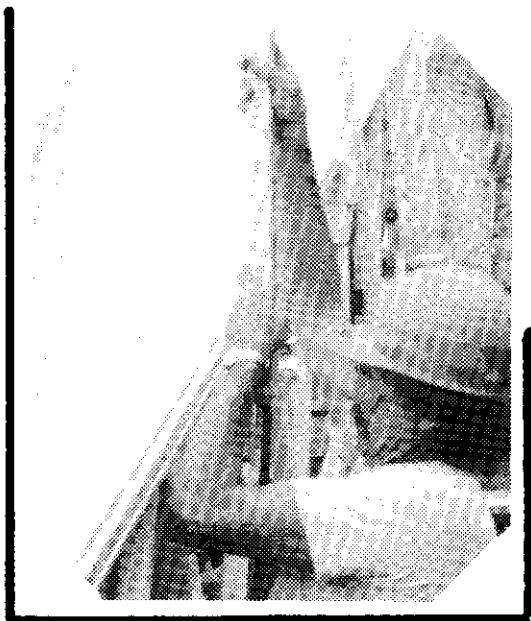
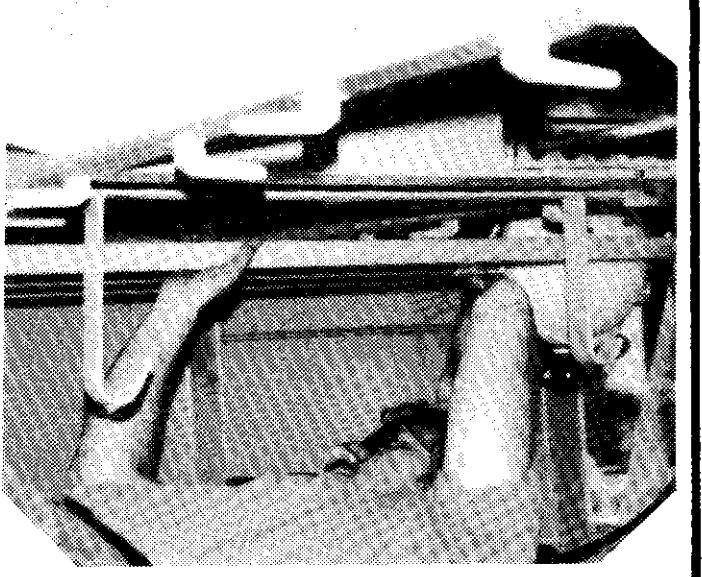

FIG. 28
FIG. 27
25. REMOVE LIGHTS FROM THE POSSUM BELLY (Fig. 27) AND INSTALL IN BRACKETS ON THE SIDE OF SLIDE FRAME. (Fig. 28) TIGHTEN BOLTS AND PLUG THEM IN.